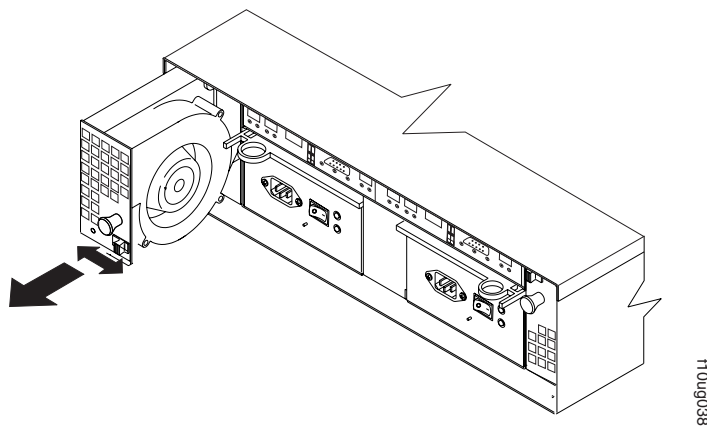

Figure 14. Removing a fan
2. Grasp the handle and pull the fan unit out of the bay, as shown in Figure 14.